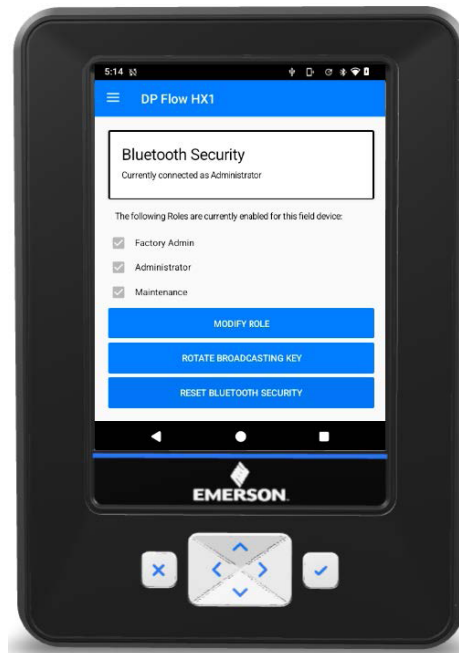

Figure 6. Bluetooth Security menu options on AMS Trex 2
2. Select Modify Role to disable the Factory Admin role (Figure 6)